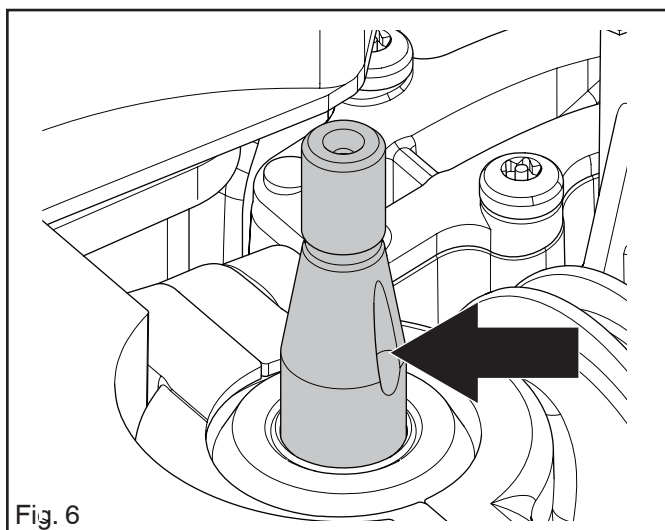

Fig. 6
3. Fit the flywheel onto the crankshaft pin. Turn the flywheel until the key fits into the key slot on the shaft. See figure 6.